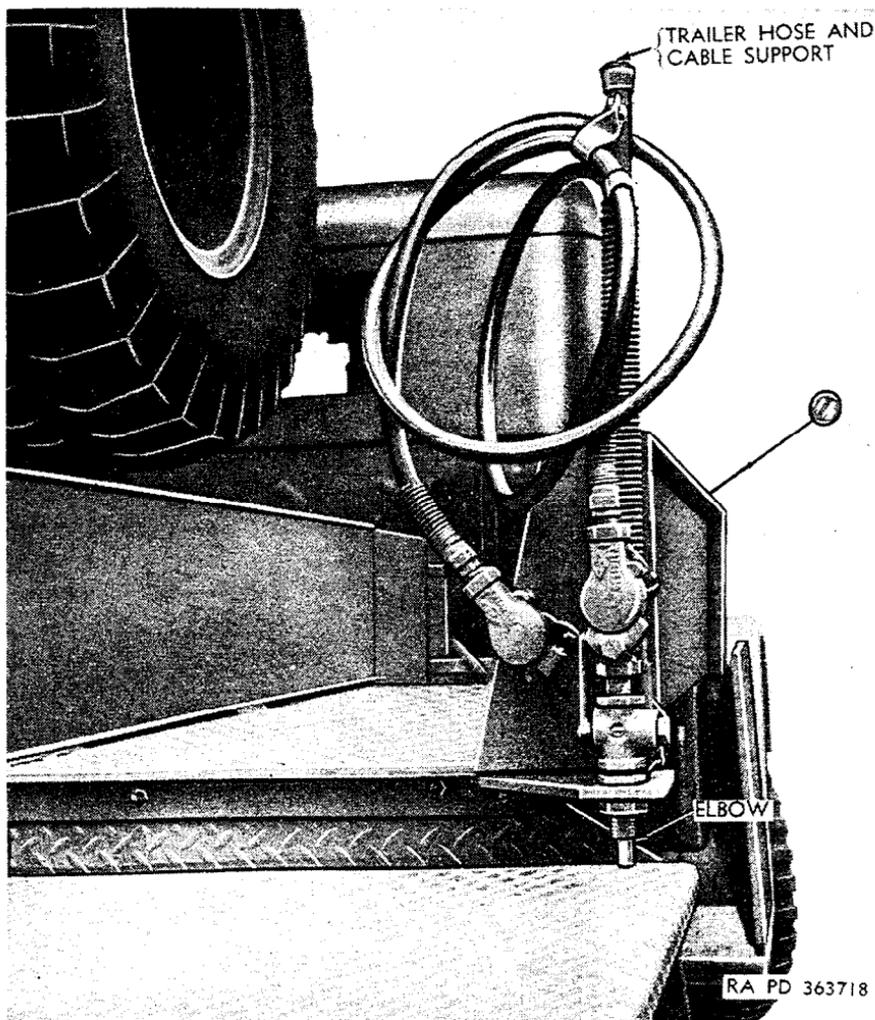

Figure 317. Front view of left trailer hose and cable support M246.
- (1) Remove base plate and pivot post assembly (par. 289).
- (2) Remove fifth wheel (par. 303).
- (3) Remove hydraulic pump and relief valve assembly (par. 288).
- (4) Drain air reservoirs (par. 235).
- (5) Disconnect both ends of air line (fig. 314) connecting elbow (fig. 317) at base of trailer hose and cable supports to tee (fig. 314) at truck-frame side rails. Remove clips securing air lines to crane body, and remove lines.
- (7) Position air lines (fig. 314) on left and right sides of crane body, and secure to body with clips. Connect both lines to elbow (fig. 317) at base of trailer hose and cable supports and to tee (fig. 314) at truck-frame side rails.
- (8) Install hydraulic pump and relief valve assembly (par. 288).
- (9) Install fifth wheel (par. 303).
- (10) Install base plate and pivot post assembly (par. 289).